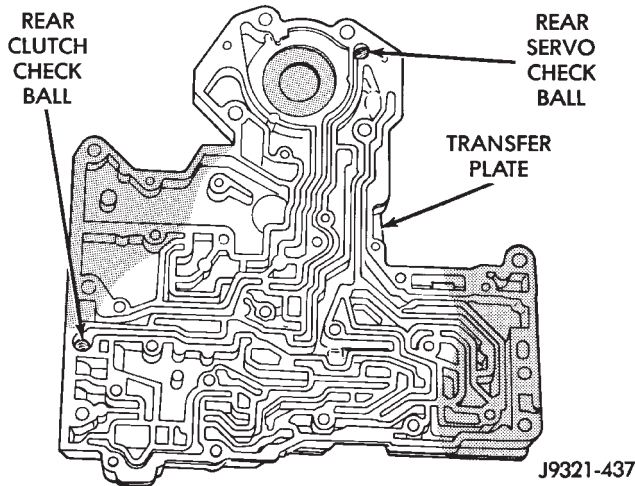

Fig. 97 Rear Clutch And Rear Servo Check Ball Locations
- (1) Install rear clutch and rear servo check balls in transfer plate (Fig. 97).